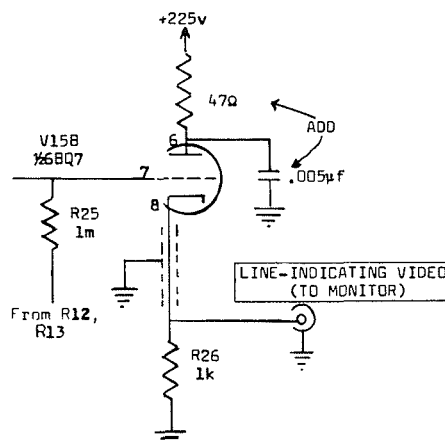

Figure 1. Type 524D/524AD Vertical Amplifier and Delay Line (partial schematic).
1. Decouple the plate of V15B by adding a 47 Ω, ½ w, 10% composition resistor (Tek no. 302-470) and a 0.005 μf, 500 v discap (Tek no. 283-001) as shown in Figure 1. This prevents the line-indicating video-output circuit from oscillating when V15 is a 6DJ8 and a 52 Ω load is used.